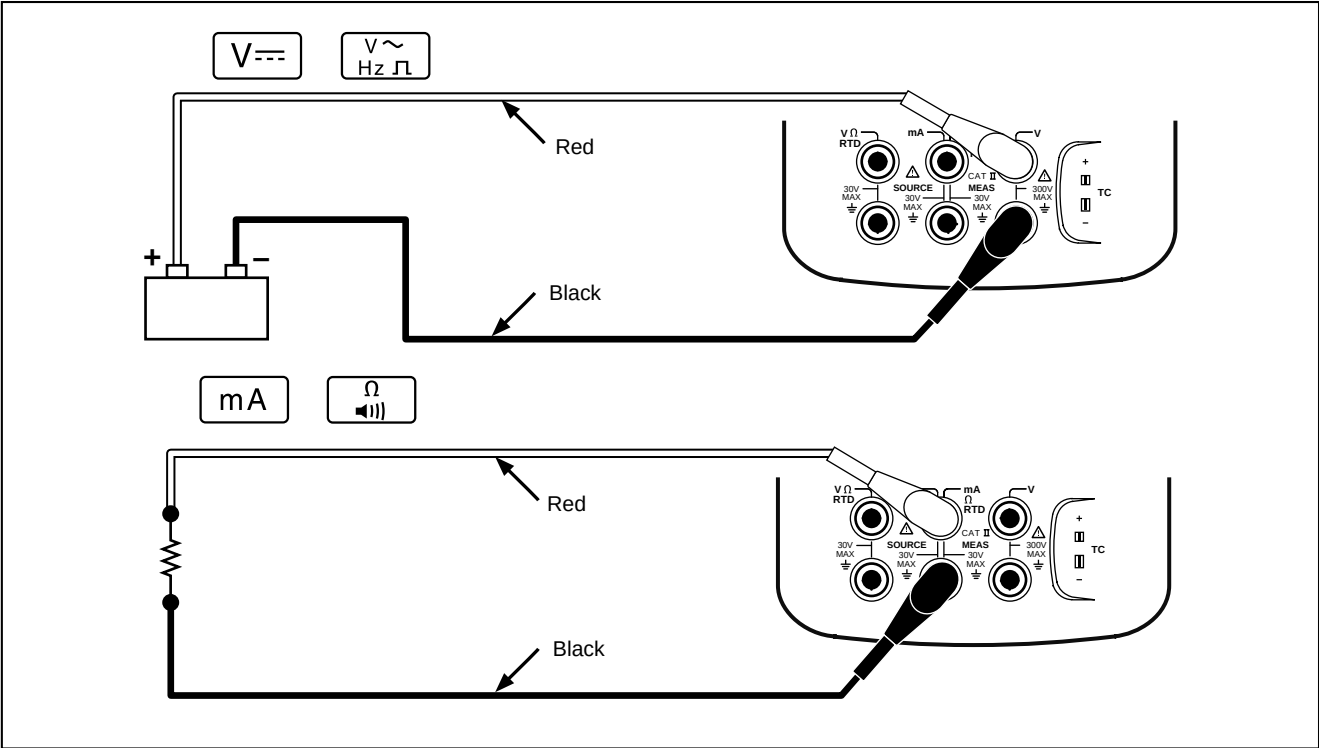

Figure 10. Electrical Measurement Connections
When you turn on the calibrator, it powers up in the dc voltage measurement function. Figure 10 shows electrical measurement connections. To select an electrical measurement function from either SOURCE or MEASURE/SOURCE mode, first press  for MEASURE mode, then proceed as follows:
2. Connect the test leads as shown in Figure 10, depending on the measurement function.
4. Connect the calibrator to the circuit to be tested as Figure 10 shows.